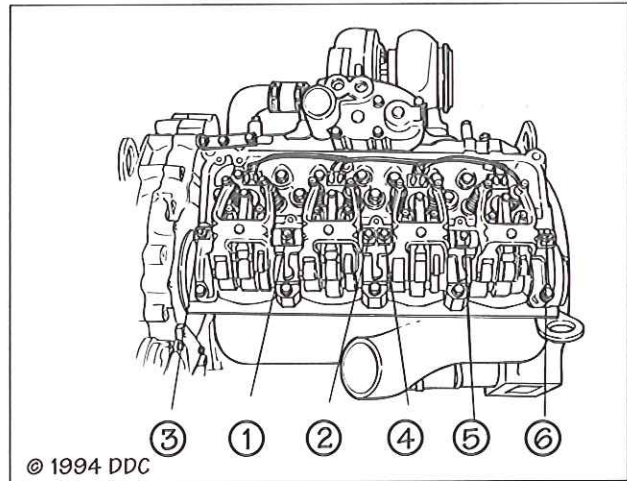

FIG. 57
- Tighten the bolts and nuts to 80 lb.-ft. (110 N•m) following the sequence shown in Fig. 57.